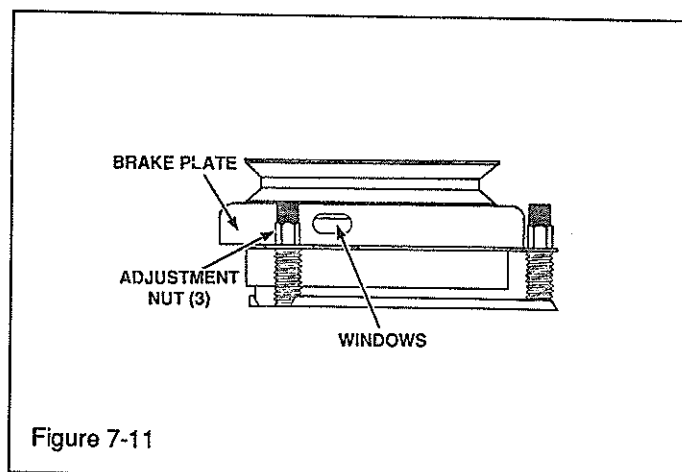
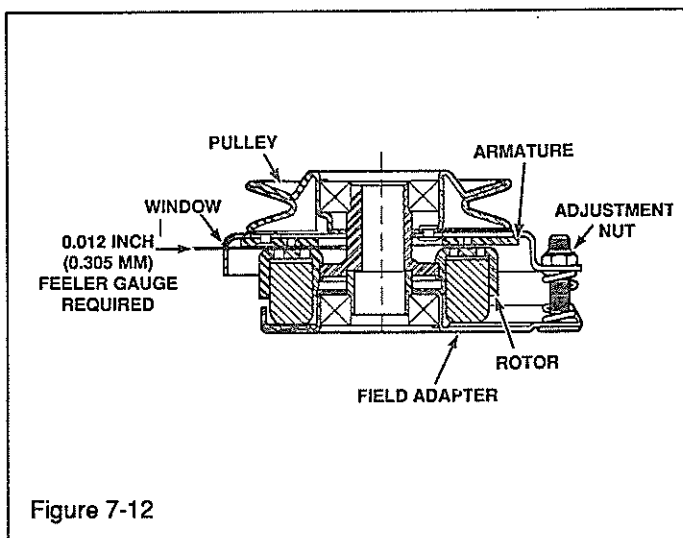

Figure 7-11
Figure 7-12
6. Locate the 3 windows (Figure 7-11) in the brakeplate. Each window is near each adjustment nut.
7. Insert a 0.012 inch (0.305 mm) feeler gauge into one of the 3 windows (Figure 7-11). Position gauge between rotor and armature. See Figure 7-12.